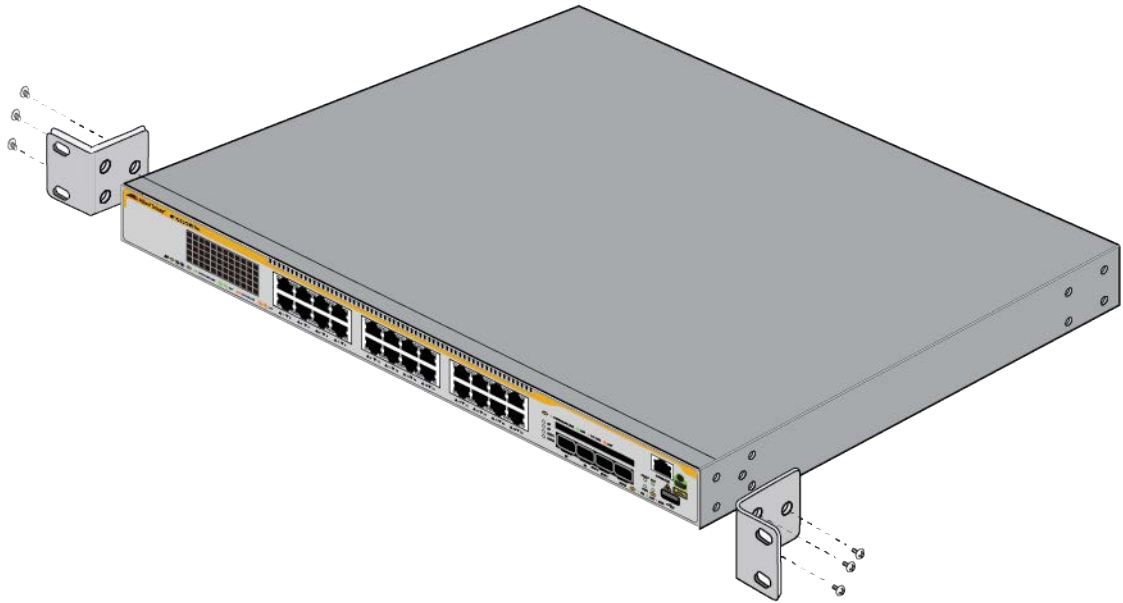

Figure 19. Attaching the Rack Mount Brackets
4. Attach the rack mount brackets to the sides of the switch in the selected positions as shown in n Figure 19.
Figure 19 shows the installation of the brackets so that the front panel is even with the front of the equipment rack.
5. Tighten the six M4x8 mm screws to attach the rack mount brackets to the switch. See Figure 19.